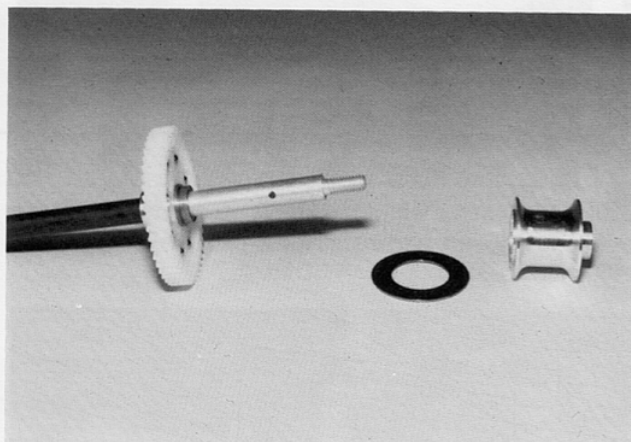

Fig. 64
□ **Fig. 64**—Slip another drive ring onto the axle and then slip the wheel spacer on. You'll have to center the drive ring so that the wheel spacer will seat correctly.